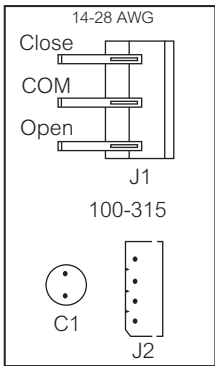
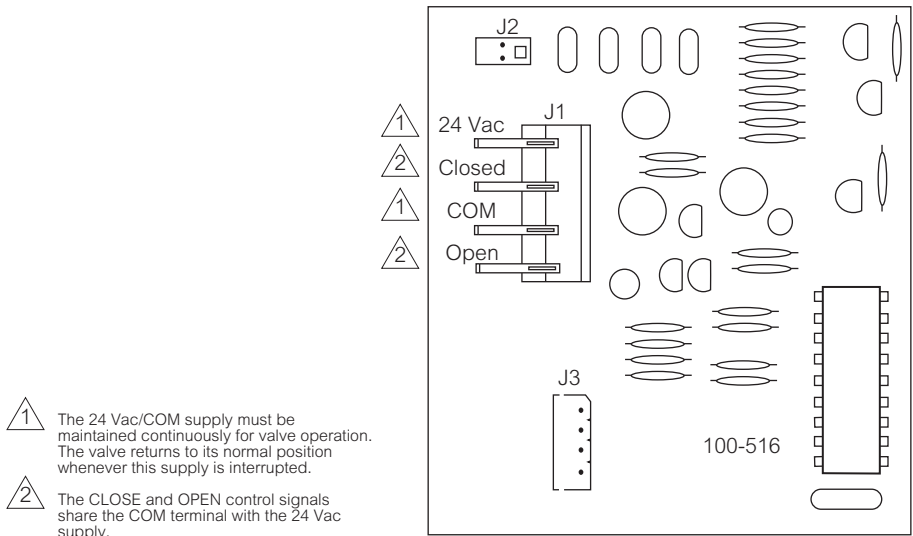

Figure-1 Typical Wiring of Three-Wire Floating Non-Spring Return Valves.
Figure-3 Typical Wiring of Three-Wire Floating Spring Return Valves with Time-Out.
1. Remove the cover from the actuator, then connect the power and control wiring to the terminal block ( Figure-1 and Figure-3).